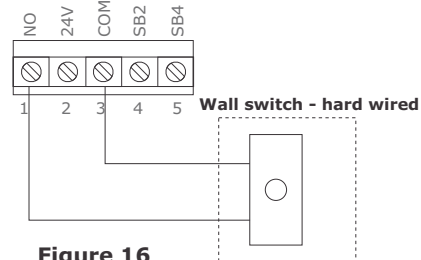

Figure 16
- III. select Dipswitch No.1 to the "ON" position (Figure.16).
- d. Wall switch (hard wired)(Figure 16)
- II. Select Dipswitch Nos.2 (SB) and 3 (AC) to the "ON" position. (Figure.16).